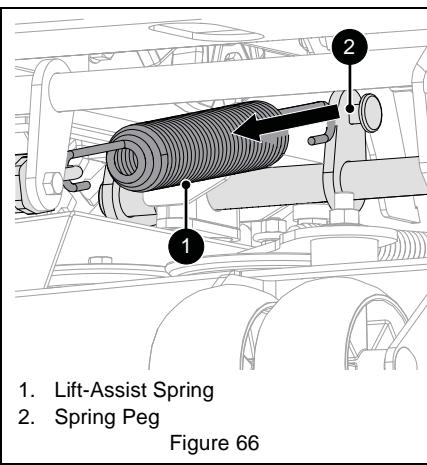

Figure 66
5. Slowly disconnect lift-assist springs from spring peg on each side of unit. See Figure 66.